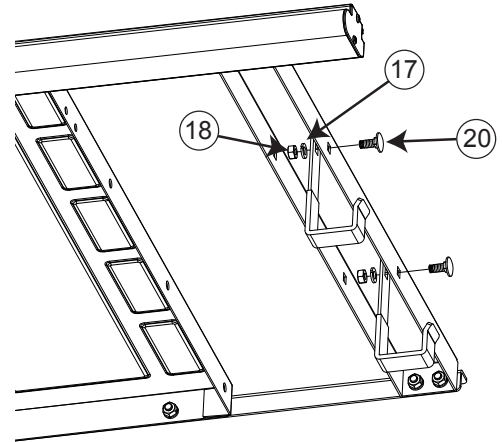

Fig. 10
10. The two large storage hooks mount to the material support shelf, and can be used to store the fence when not in use. Use two M8 x 20 carriage bolts, two M8 lock washers, and two M8 hex nuts to mount the hooks to the right side of the material support shelf (see Fig. 10). Fully tighten the nuts using a 13 mm wrench.